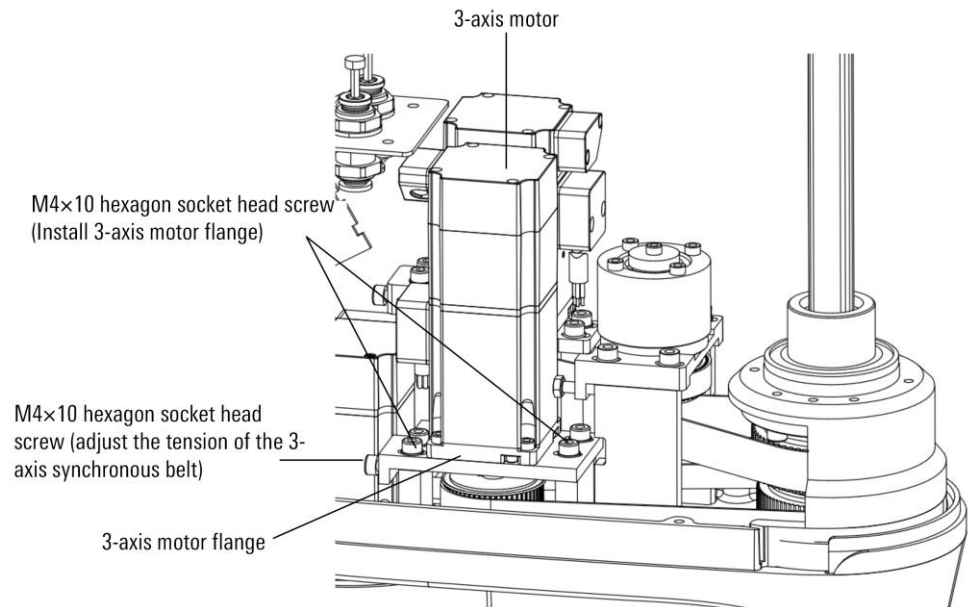

Figure 8-7 Schematic diagram of disassembling 3-axis motor flange
- Step3. Use an Allen wrench to remove the four M4×10 inner hexagon socket head screws that fix the flange of the 3-axis motor, and then slowly loosen the a M4×10 inner hexagon socket head screw that adjusts the tension of the 3-axis synchronous belt. Take off the flanges of the 3-axis motor and the 3-axis motor together, as shown in Figure 8-7.